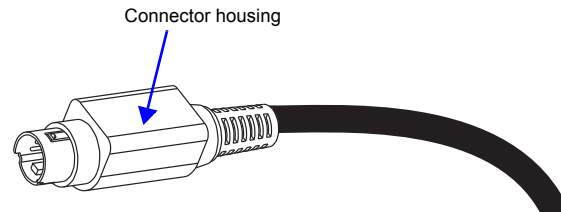
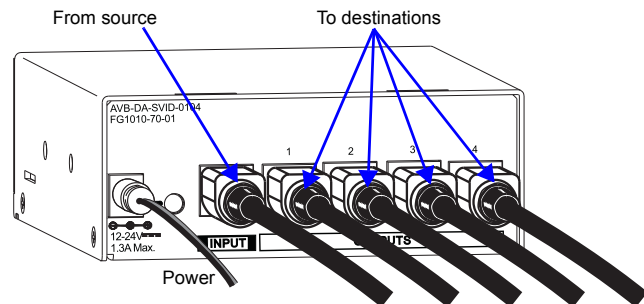
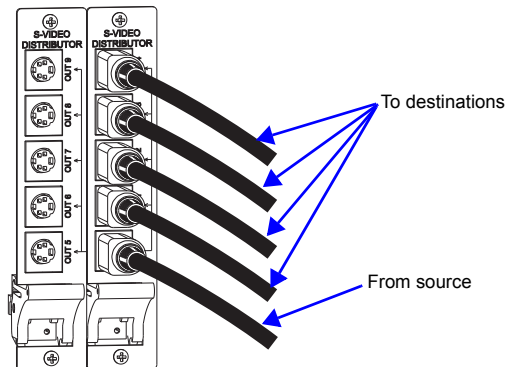

FIG. 2 Pull back on connector housing while pushing in
FIG. 4 Attach power cord and S-Video connectors
FIG. 7 Attach S-Video cables onto connectors
1. Insert the locking S-Video plugs from the source and destination devices onto the S-Video connectors (FIG. 4, reference FIG. 2).
2. Plug the desktop power supply into the power jack on the module and into an AC external power source (FIG. 4).
If you are providing the power supply – Plug the power cord from a UL (or equivalent) listed power supply into the power jack on the module (FIG. 4). The electrical ratings must meet those indicated in the specifications table.
1. Insert the locking S-Video plugs from the source and destination devices onto the S-Video connectors (FIG. 7, reference FIG. 2 previous page).